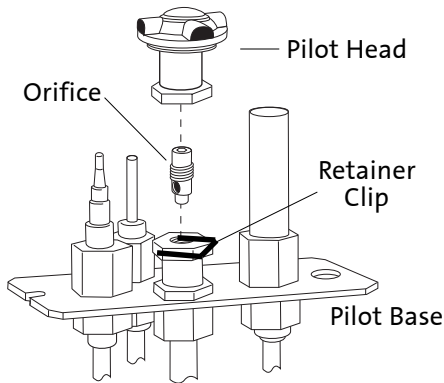

Figure 20.
- 8 **CHANGE THE PILOT ORIFICE:** From within the firebox, remove the Pilot Head by pulling it straight up from the pilot base. See fig. 20.
9. Tighten orifice into the base of the pilot assembly. To prevent bypass leaks, be sure the orifice is secured tightly and flush with the base. Replace pilot head by pushing it down onto the pilot base. See fig. 20.